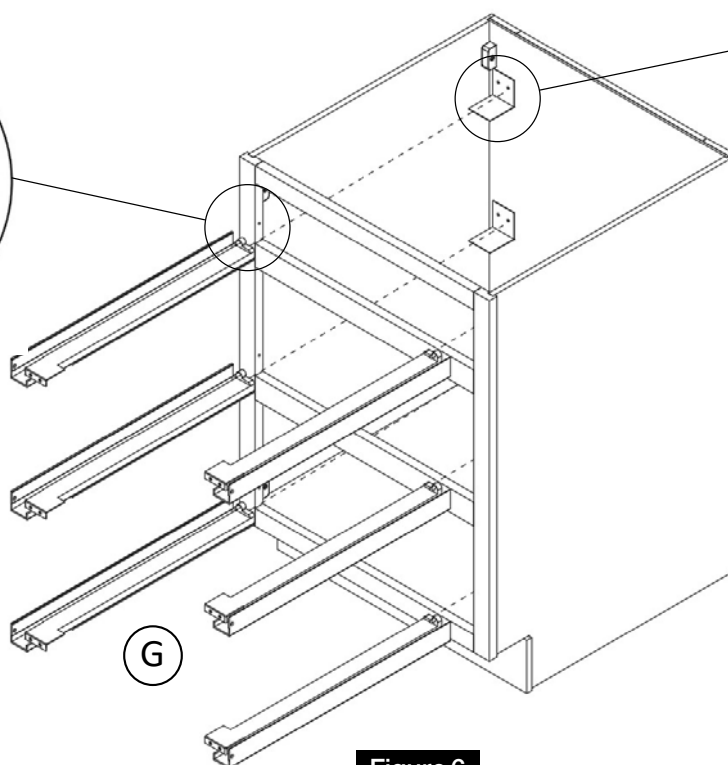

Figure 6
Attach the Drawer Glides (G) using screws (c) onto the frame and glide brackets installed in Step 2. (Figure 6)